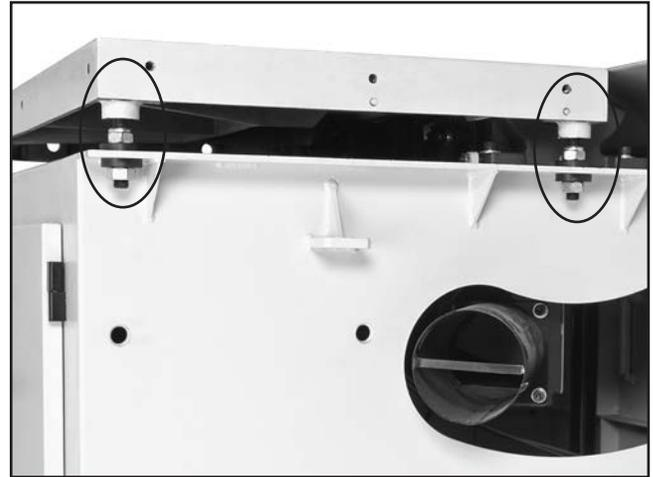

Figure 132. Main table mounting fasteners.
4. Remove the four hex nuts and spacers from the bottom of the studs that secure the cast iron table to the cabinet (see **Figure 132**).
Important: The position of the four upper lock nuts were set at the factory so that the cast iron table is square with the saw blade from side to side and back to front. DO NOT change the position of these lock nuts (see **Figure 132**). Otherwise, you will have to perform the time consuming procedure of bringing the table back to square with the blade.